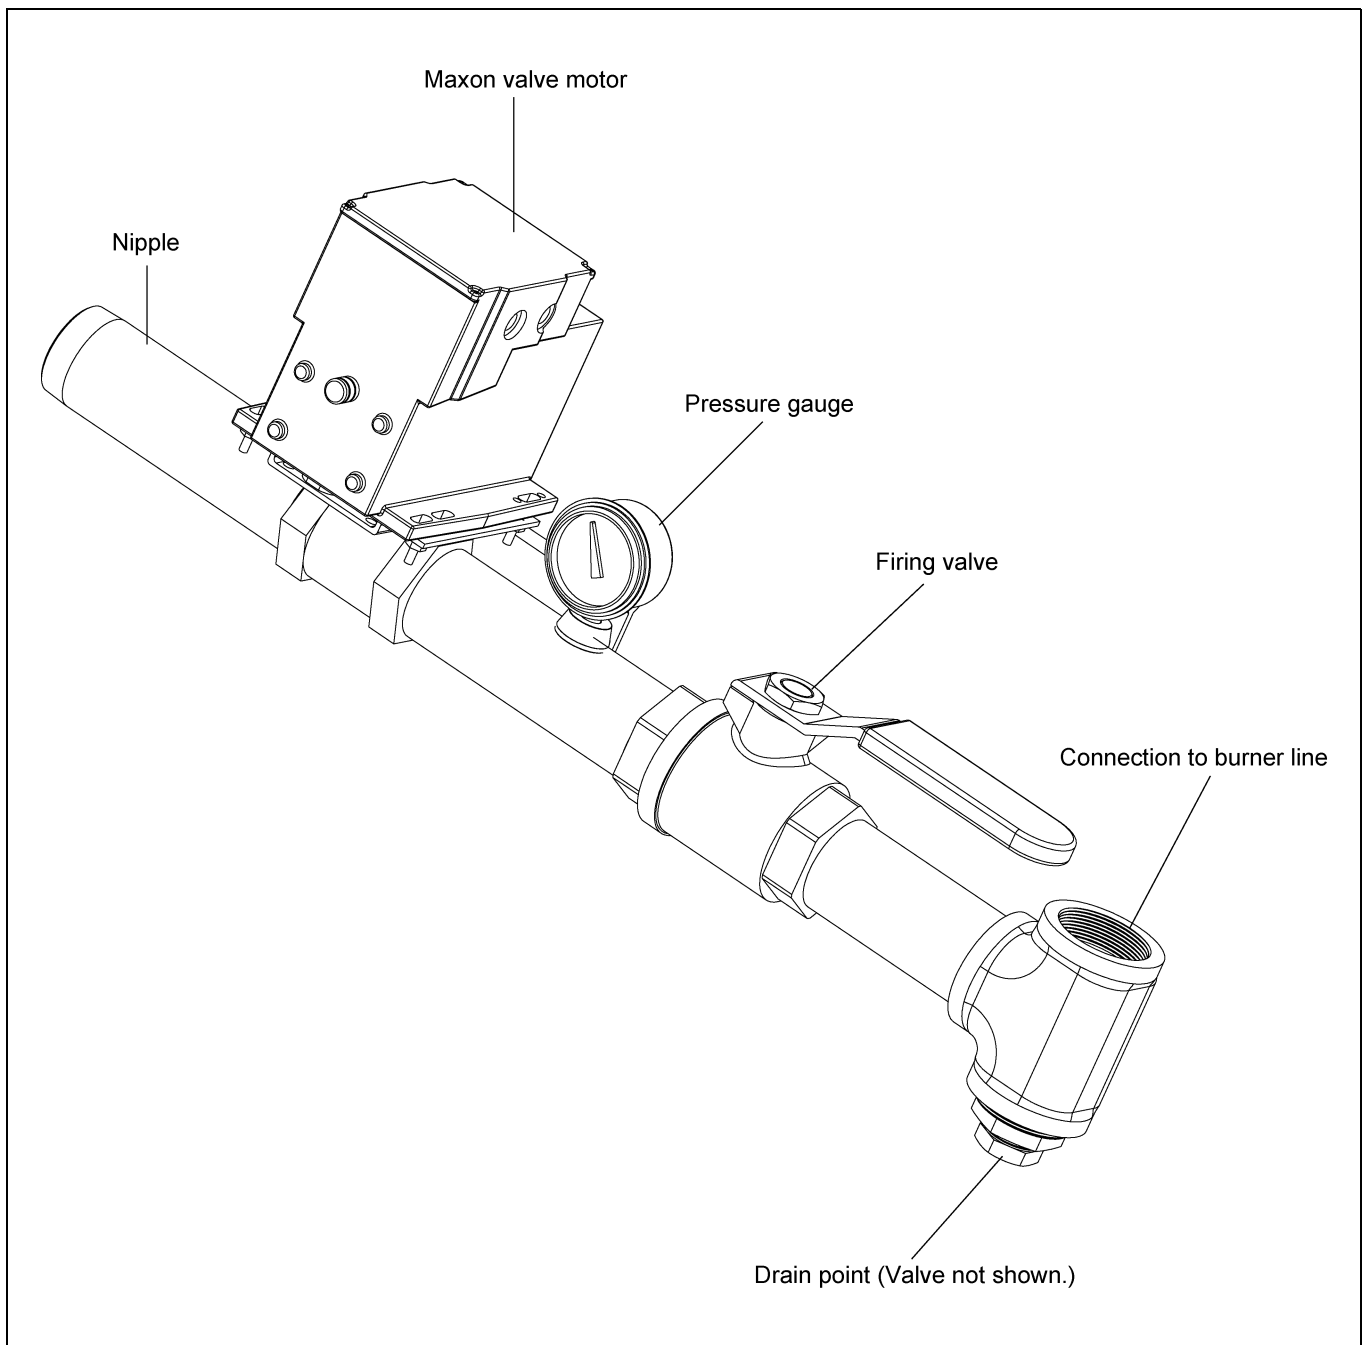

Figure 71 Modulator Section (Modulating Motor Not Shown)
- h. When the plenum reaches set point, adjust the MINIMUM setting on the modulating valve *(See Figure 71 on Page 52)* to the required setting. *(See Table on Page 22.)*